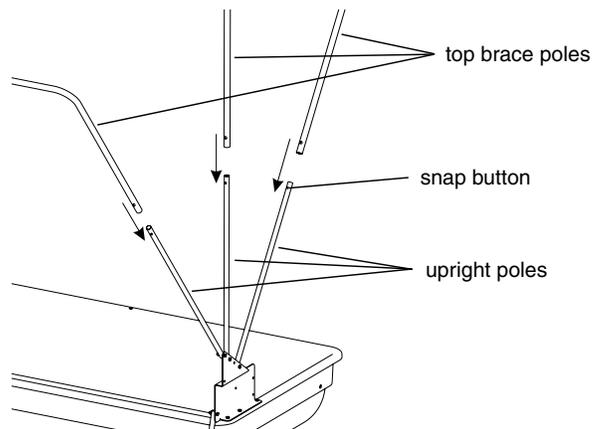

FIGURE 7
3. Take the (3) hinge upright poles from each hinge assembly and insert them into the (3) assembled top cross brace poles (large loop poles). Push the snap buttons inward and allow cross brace poles to go over hinge poles and slide them to their shortest height (transport mode). **SEE FIGURE 7.**